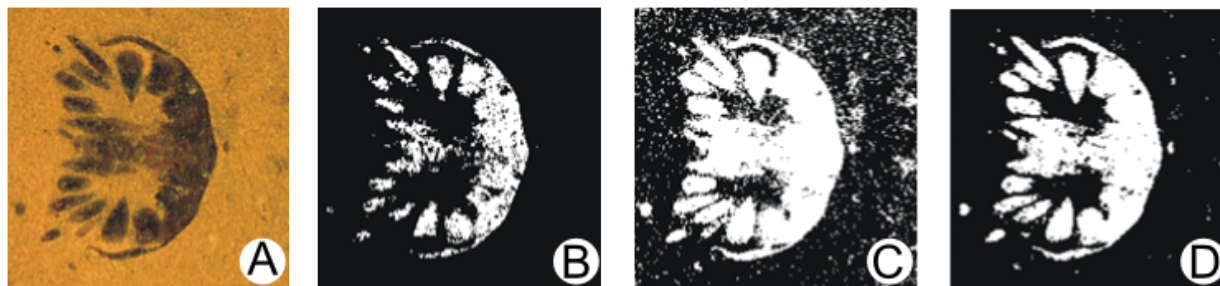

Fig. 3: Figure 3. Linear Generation examples. A; source image. B; too dark.(to few white pixels) C; too light (too many white pixels). D; about right.
The goal of Generation is to as near as possible automatically correctly identify which pixels are ‘object’ and which ‘background’; this involves choosing the best settings before generating for the entire dataset. Unless datasets are entirely free from noise there will be no absolutely correct setting, and the goal is to find a setting that is ‘about right’ – i.e. where the edge of the object is being correctly identified as much as possible, and as little background as possible is coming out as white. Toggling between the source and threshold image by using the spacebar is helpful while judging this. Figure 3 shows a colour slice-image from a serial grinding dataset (A), and three attempts at generating a threshold image from it (B-D). Here the fossil is darker than the matrix, so *Invert* is on. In the first attempt (B), the *Global* slider is set too high; although little or none of the matrix is white in the threshold image and much of the fossil is absent. In the second attempt (C) the *Global* slider is set too low – although most of the fossil is white in the thresholded image, far too much non-fossil material is also coming through. The final attempt (D) is about right – most of the fossil is white and only a little non-fossil material is present.